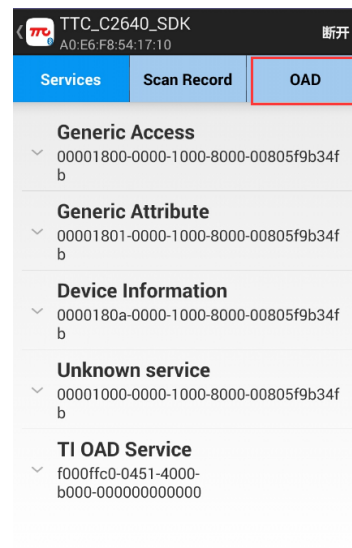

Figure 2-5-9 OAD
- (5) Click "OAD", as shown in Figure 2-5-9;